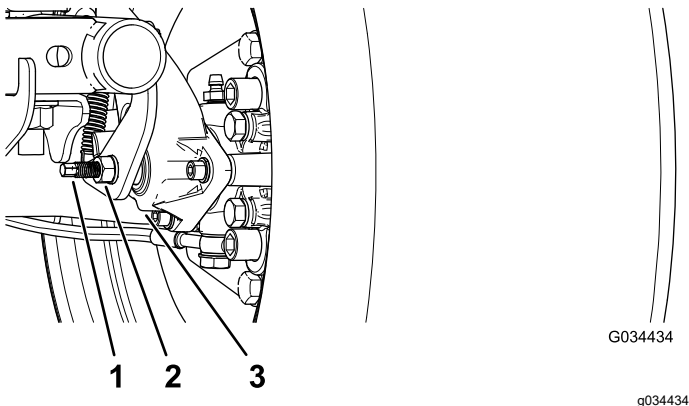

Figure 65
3. Using 2 wrenches, hold the adjusting post on the caliper in place with 1 wrench, and loosen the jam nut 1/4 turn with the other wrench (Figure 65).
4. While holding the adjusting post and the jam nut in place, turn the adjusting post in to tighten (Figure 65).
5. While holding the adjusting post and the jam nut in place, back off 1/4 turn (Figure 65).
6. While holding the adjusting post and the jam nut in place, tighten the jam nut (Figure 65).